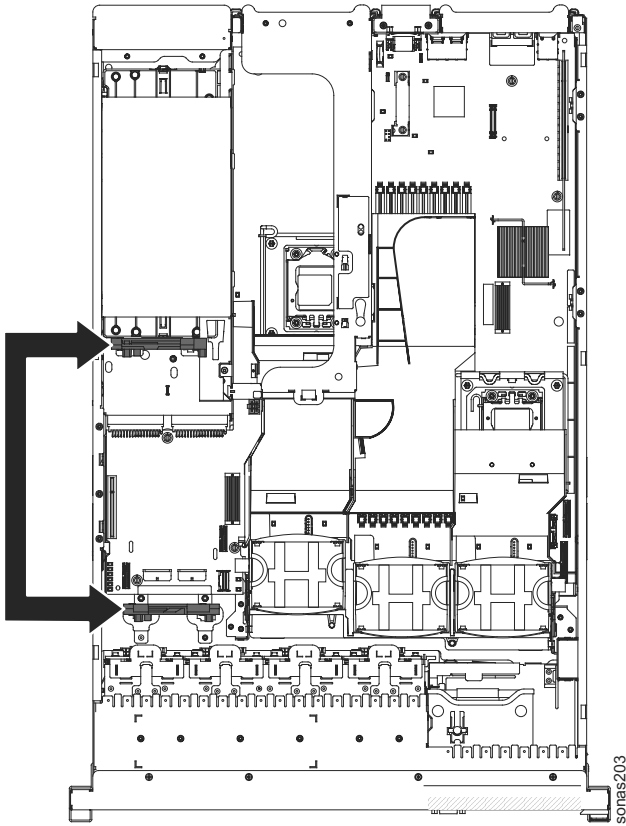

Figure 22. Controller retention brackets on 16-drive-capable server model
- a. If you are replacing a ServeRAID-BR10il v2 SAS/SATA controller with a ServeRAID-M5015/M5014 SAS/SATA controller, you must swap the controller retention brackets to fit the new SAS controller. See Figure 22 on page 114.